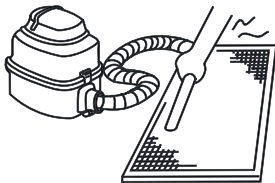

Fig. 6-8
- The air inlet side should be facing upwards if you are using a Hoover. (See Fig. 6-8).